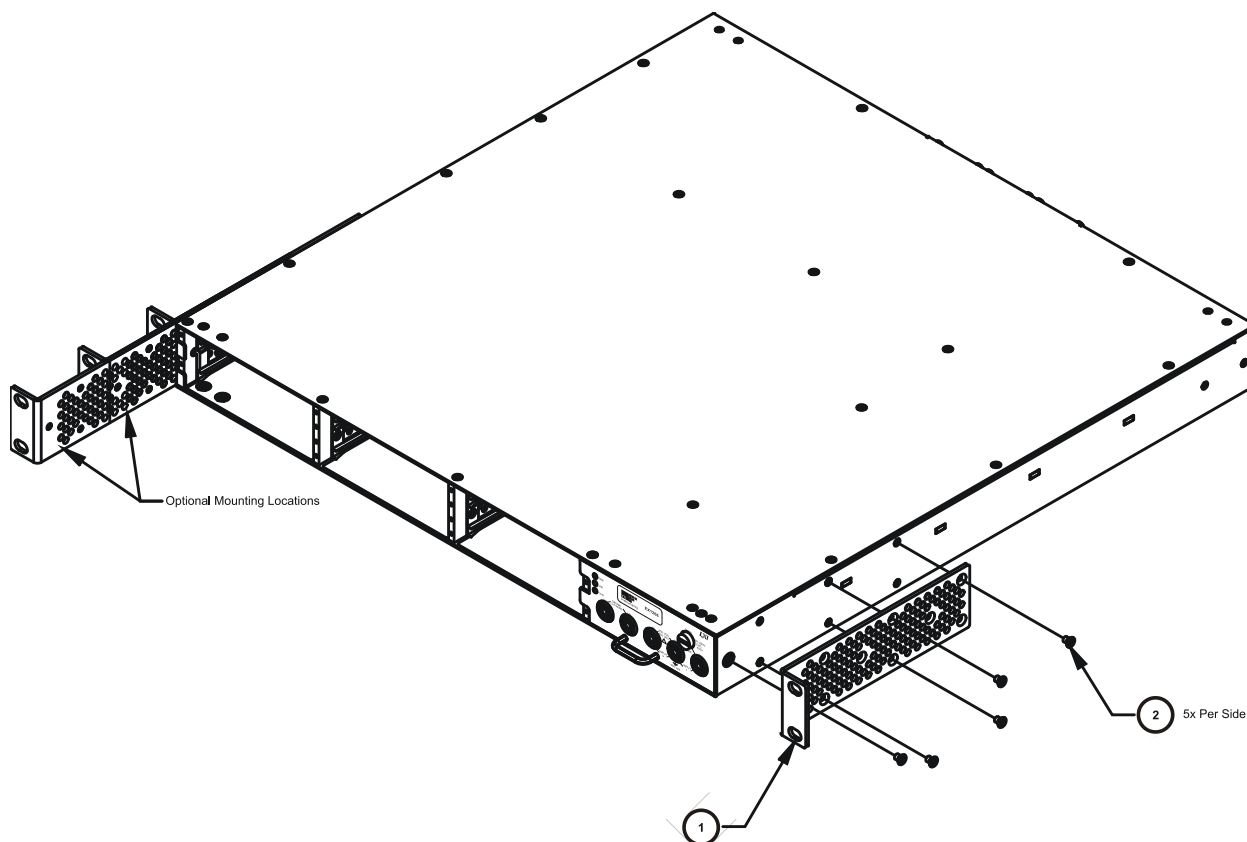

FIGURE 2-9: RACK EAR INSTALLATION DIAGRAM (EXPLODED FRONT VIEW)
- 2) Using a #2 Phillips screwdriver, install the rack ears (P/N: 41-0482-009) on the front of the EX1206A using five (5) 6-32 x 3/8" flat head Phillips stainless steel screws (P/N: 37-0114-025) for each rack ear. Note that the "Optional Mounting Locations" in Figure 2-9 allow the EX1206A to be installed in a rack either flush or recessed.